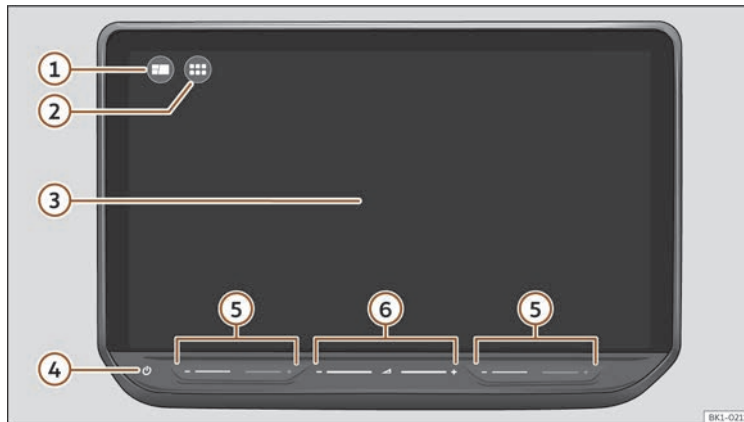

Fig. 175 Overview: control unit
Customise the top menu or the HOME >>> Fig. 175 ① view to quickly access your favourite or most frequently used functions.